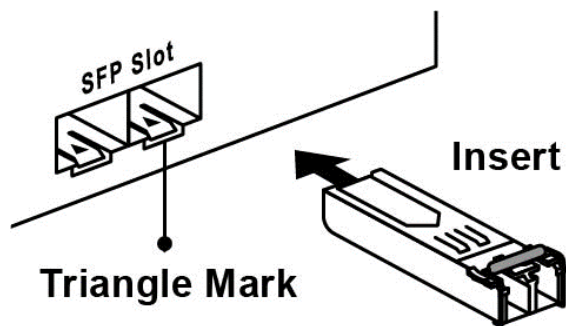
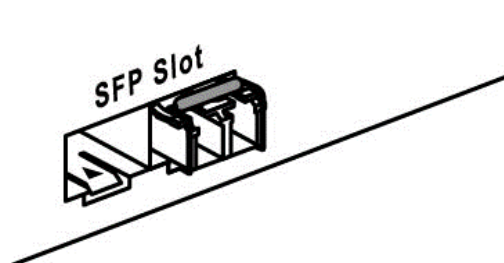

Figure 2.4: Transceiver to the SFP Module
Figure 2.5: Transceiver Inserted
- Step 1 Insert the SFP transceiver module into the SFP slot as shown below in Figure 2.4. Notice that the triangle mark is at the bottom of the SFP slot. Figure 2.5 shows SFP transceiver module was inserted.